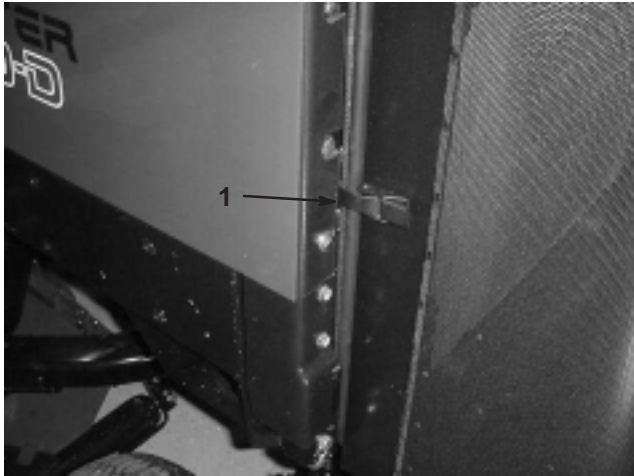

Figure 32
- Unlatch and swing open rear screen (Fig. 32). Clean the screen thoroughly of all debris.